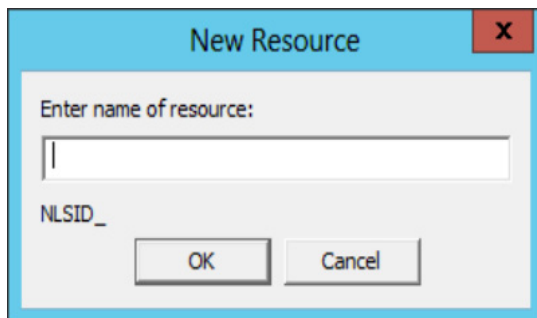

Figure 30. New Resource Window
1. Click **Add**. The New Resource window appears as shown in Figure 30.